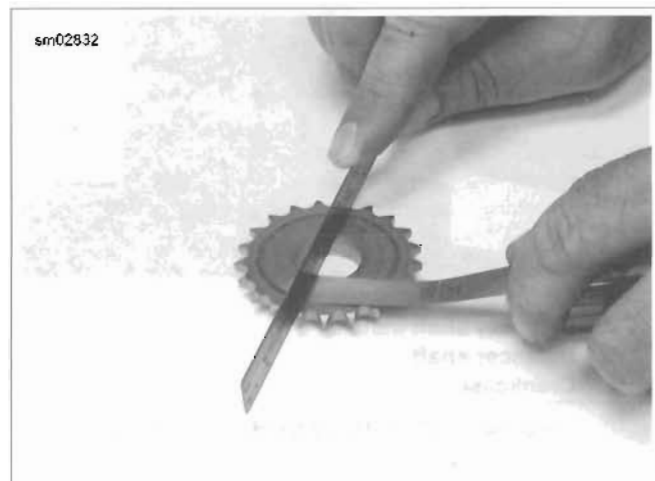

Figure 3-157. Sprocket Inspection
- See Figure 3-157. Sprockets must be flat within 0.008 in. (0.203 mm).